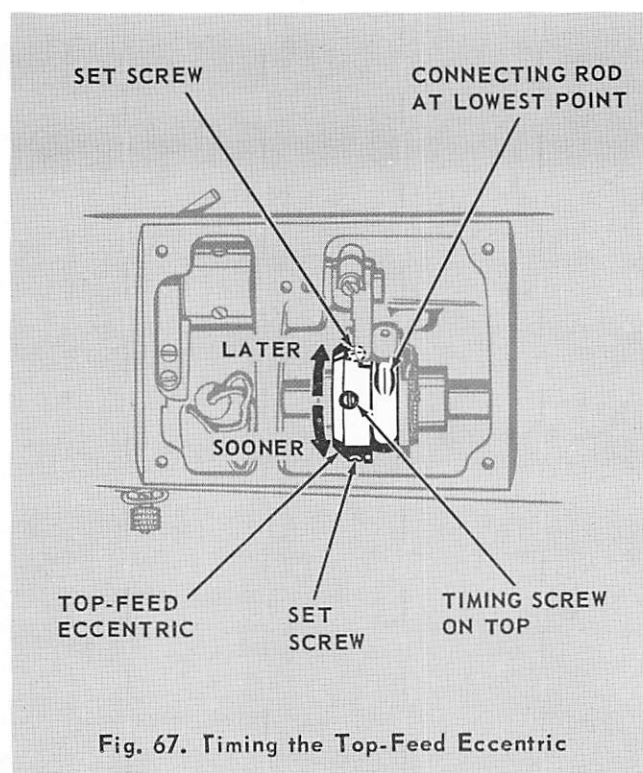

Fig. 67. Timing the Top-Feed Eccentric
**TOP-FEED** (See Fig. 67): To synchronize top-feed with bottom feed motion, remove arm top cover, as shown in Fig. 67, and loosen the TIMING SCREW and the other two screws in the top feed eccentric.